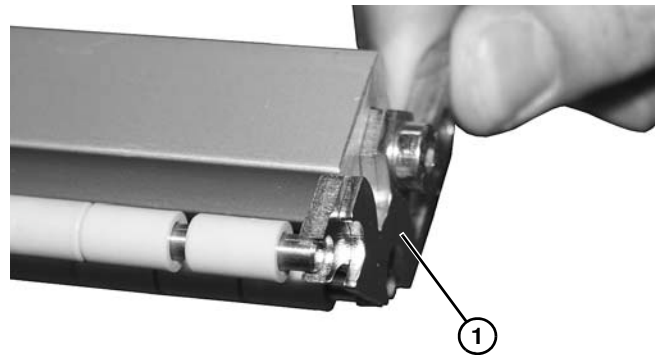

Figure 104
6. Remove outer and inner end plate (**Figure 104, item 1**).